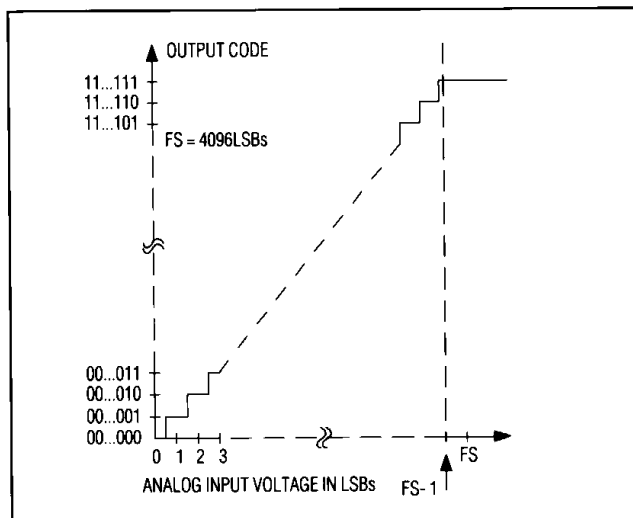

Figure 17. MAX183/184/185 Ideal Unipolar Transfer Function
Figure 17 shows the nominal input/output transfer function of the MAX183/184/185. Code transitions occur half way between successive integer LSB values. The output coding is binary with 1LSB = Full Scale (FS)/4096. FS is either +5V or +10V, based on the analog input configurations.